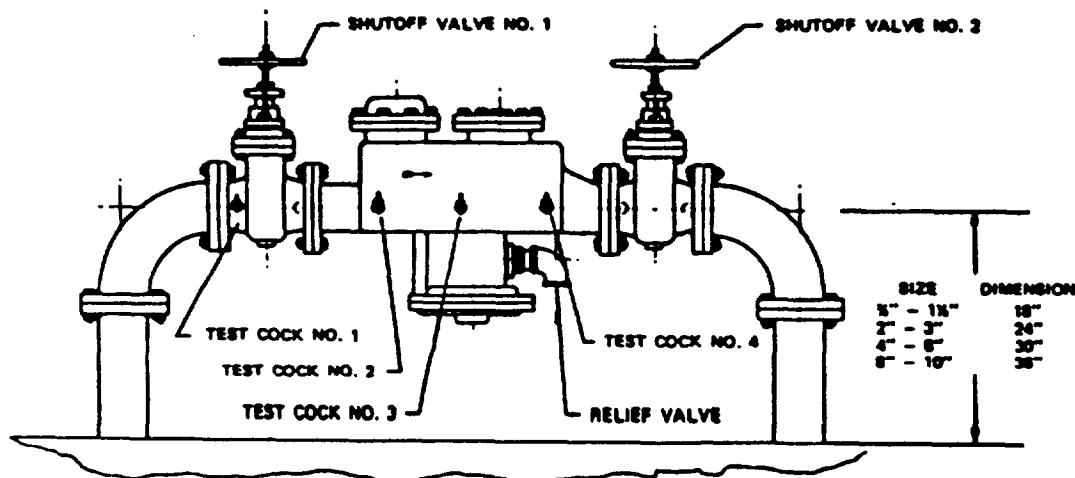

FIGURE 2
### A. WARM CLIMATE ABOVE GROUND INSTALLATION (Fig. 2)
2. Devices should be installed in a horizontal position above the ground or floor level as shown in Figure 2.